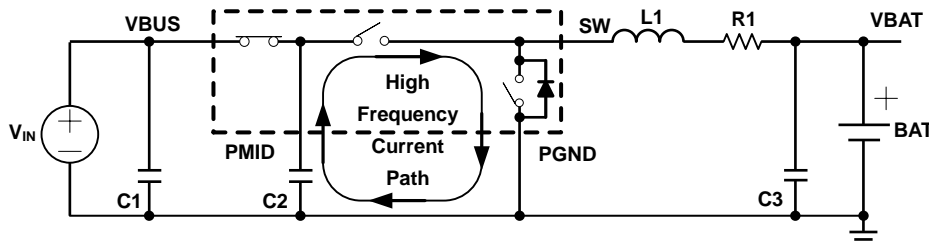
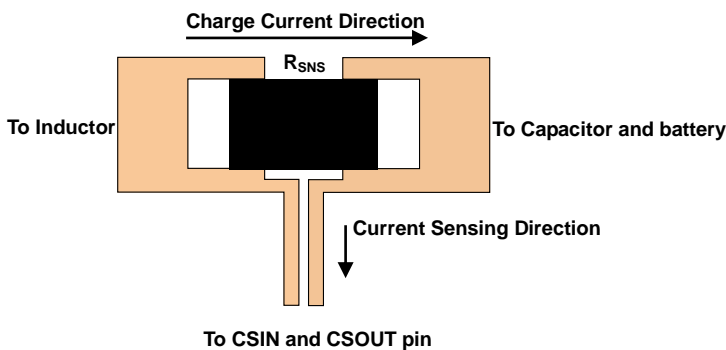

Figure 38. high frequency current path
Figure 39. Sensing resistor PCB layout
1. To obtain optimal performance, the power input capacitors, connected from input to PGND, should be placed as close as possible to the pin. The output inductor should be placed close to the IC and the output capacitor connected between the inductor and PGND of the IC. The intent is to minimize the current path loop area from the SW pin through the LC filter and back to the PGND pin. To prevent high frequency oscillation problems, proper layout to minimize high frequency current path loop is critical. (See Figure 38.) The sense resistor should be adjacent to the junction of the inductor and output capacitor. Route the sense leads connected across the RSNS back to the IC, close to each other (minimize loop area) or on top of each other on adjacent layers (do not route the sense leads through a high-current path). (See Figure 39.)